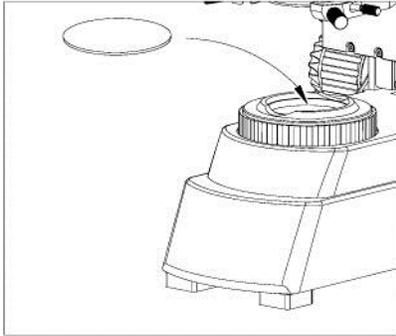

Fig. 33
- Transmitted Illumination (Fig. 33)
To insert the filter, place it as shown in Fig. 33 with the rough side down.